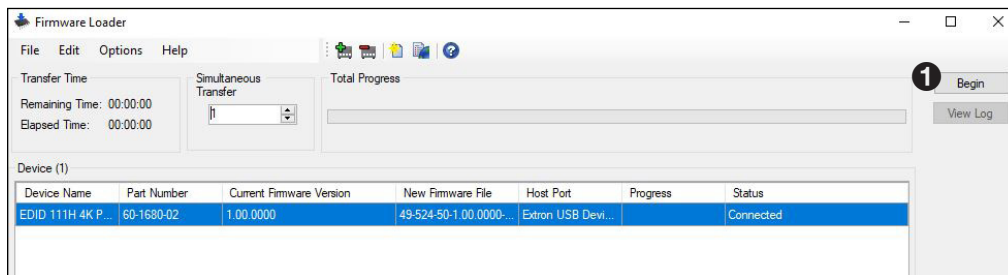

Figure 17. Firmware Loader Main Window
- Click **Add** (7). The device and firmware are listed in the Firmware Loader main window.
- Click **Begin** (see figure 17, 1).